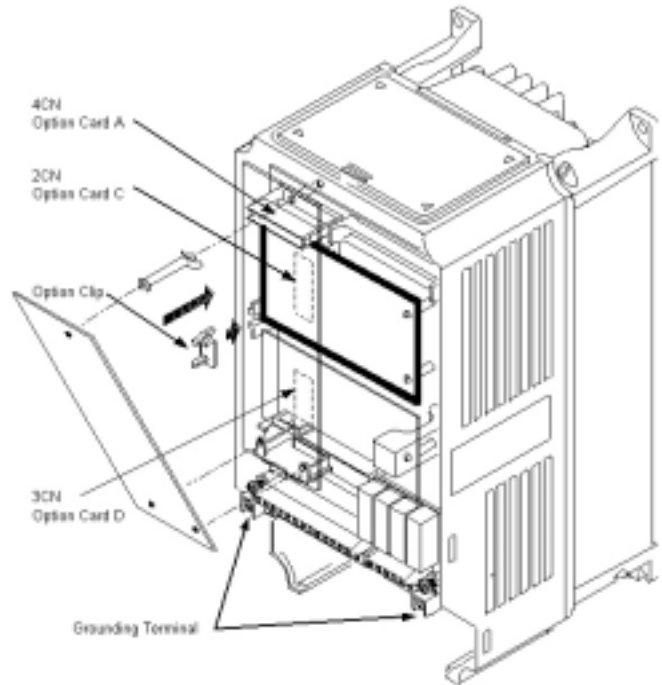

Figure 1. DI-16H2 Option Card Installation
5. **Option Card Installation:** See Figure 1. Position the option card above the control board's 2CN connector and gently press the card into place.